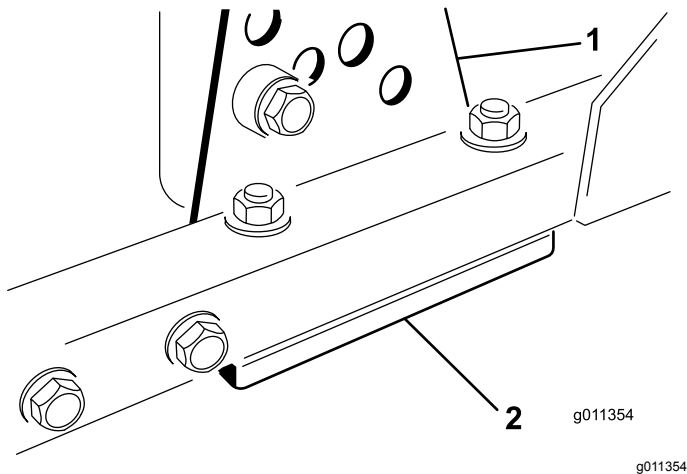

Figure 87
1. Remove the height-of-cut bracket, (front, left, or right) from the deck frame (Figure 87).
2. Adjust 1.5 mm (0.060 inch) shims and/or 0.7 mm (0.030 inch) shim between the deck frame and bracket to achieve the desired height setting (Figure 87).